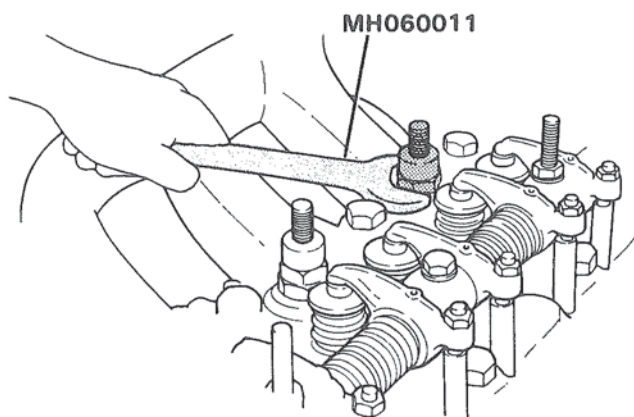

Figure 11. Removing Nozzles.
3. Unthread nozzles out of precombustion chambers using nozzle holder wrench, Special Tool MH060011. Figure 11.